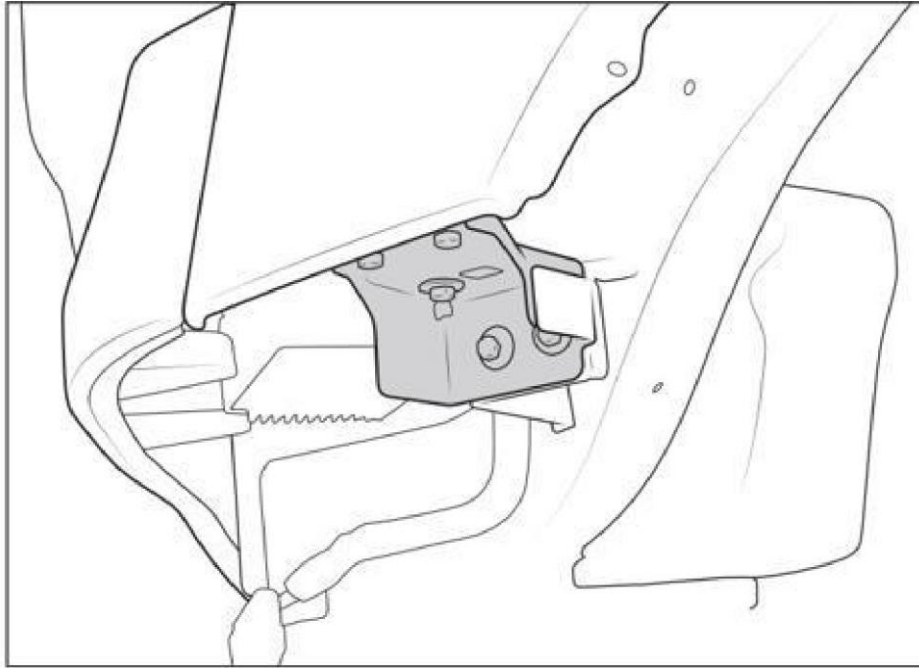

Figure 1
1. Remove headlamp brackets and SAVE factory hardware (fig 1.)